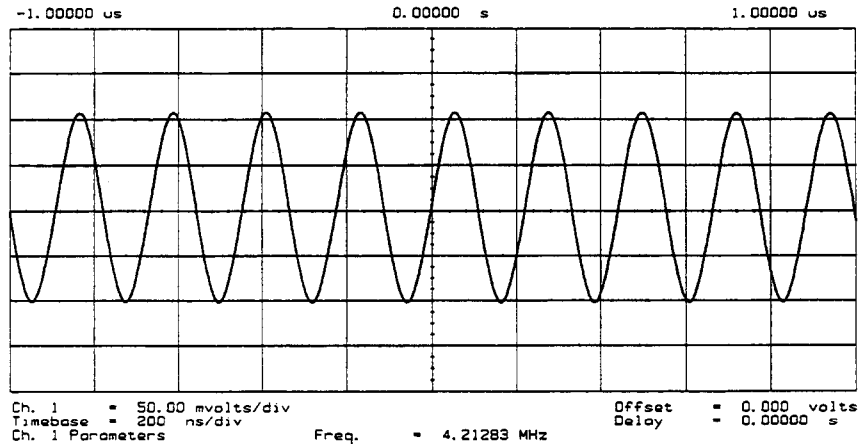

Figure 25. Typical 1st IF Waveform in FRACN TUNE/SRC TUNE Mode
1. Remove the A4-to-A11 SMB cable from the A4 (R) sampler/mixer output. Connect the oscilloscope to the A4 output (1st IF).
- Set the SRC TUNE frequency to those listed in Table 9 and observe the 1st IF waveforms. They should appear similar to Figure 25.